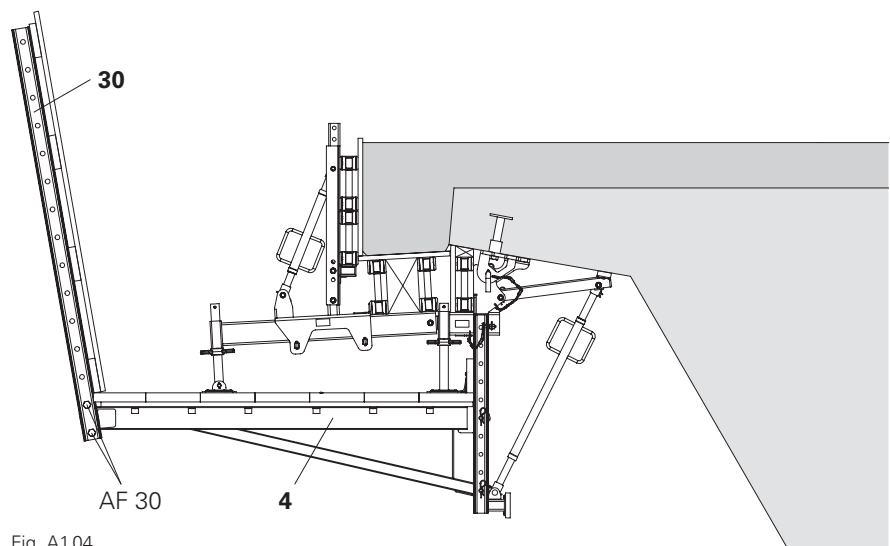

Fig. A1.04
1. Attach Guardrail Post RCS/SRU 184 (30) to Platform Cantilever Beam VGK 170 (4), AF 30.
- (Fig. A1.04)